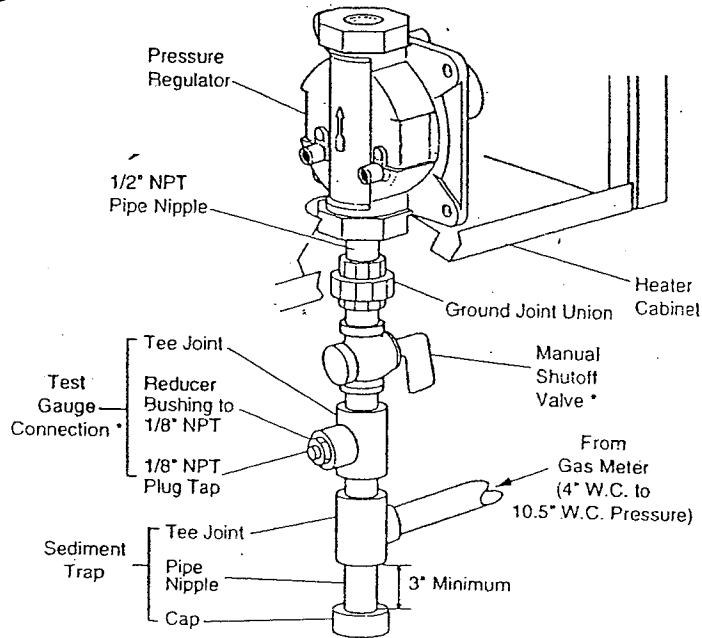

Figure 4
2. Locate NPT tap within reach for test gauge hook up. NPT tap must be upstream from heater (see Figure 4, page 10).
4. Install **sediment trap** in supply line as shown in Figure 4, page 10. Locate sediment trap where it is within reach for cleaning. Locate sediment trap where trapped matter is not likely to freeze. A sediment trap collects moisture and contaminants. This keeps them from going into heater controls. If sediment trap is not installed or is installed wrong, heater may not run properly.